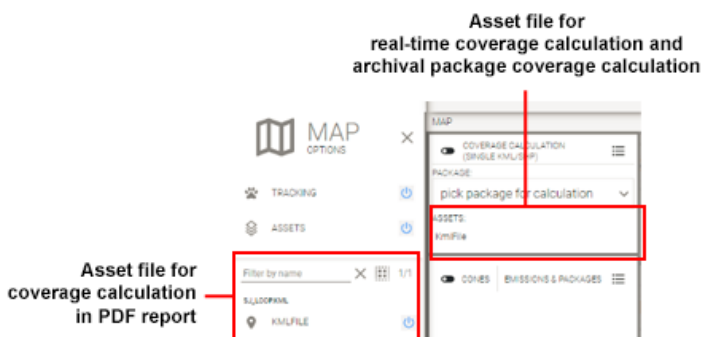

Figure 111 Coverage Calculation Methods
- 3 Calculate the coverage of an asset file in one of the following two methods (see Figure 111):